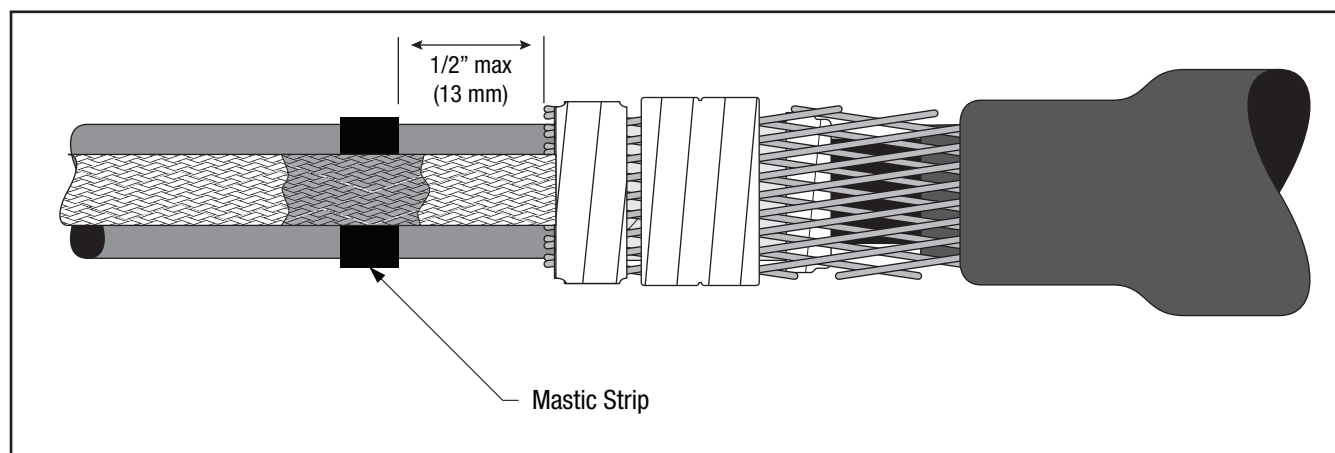

Figure 19
- 6.4 Place one mastic sealing strip on the cable jacket under the solder blocks of the ground strap no farther than 1/2" (13 mm) from the jacket edge (*Figure 19*).